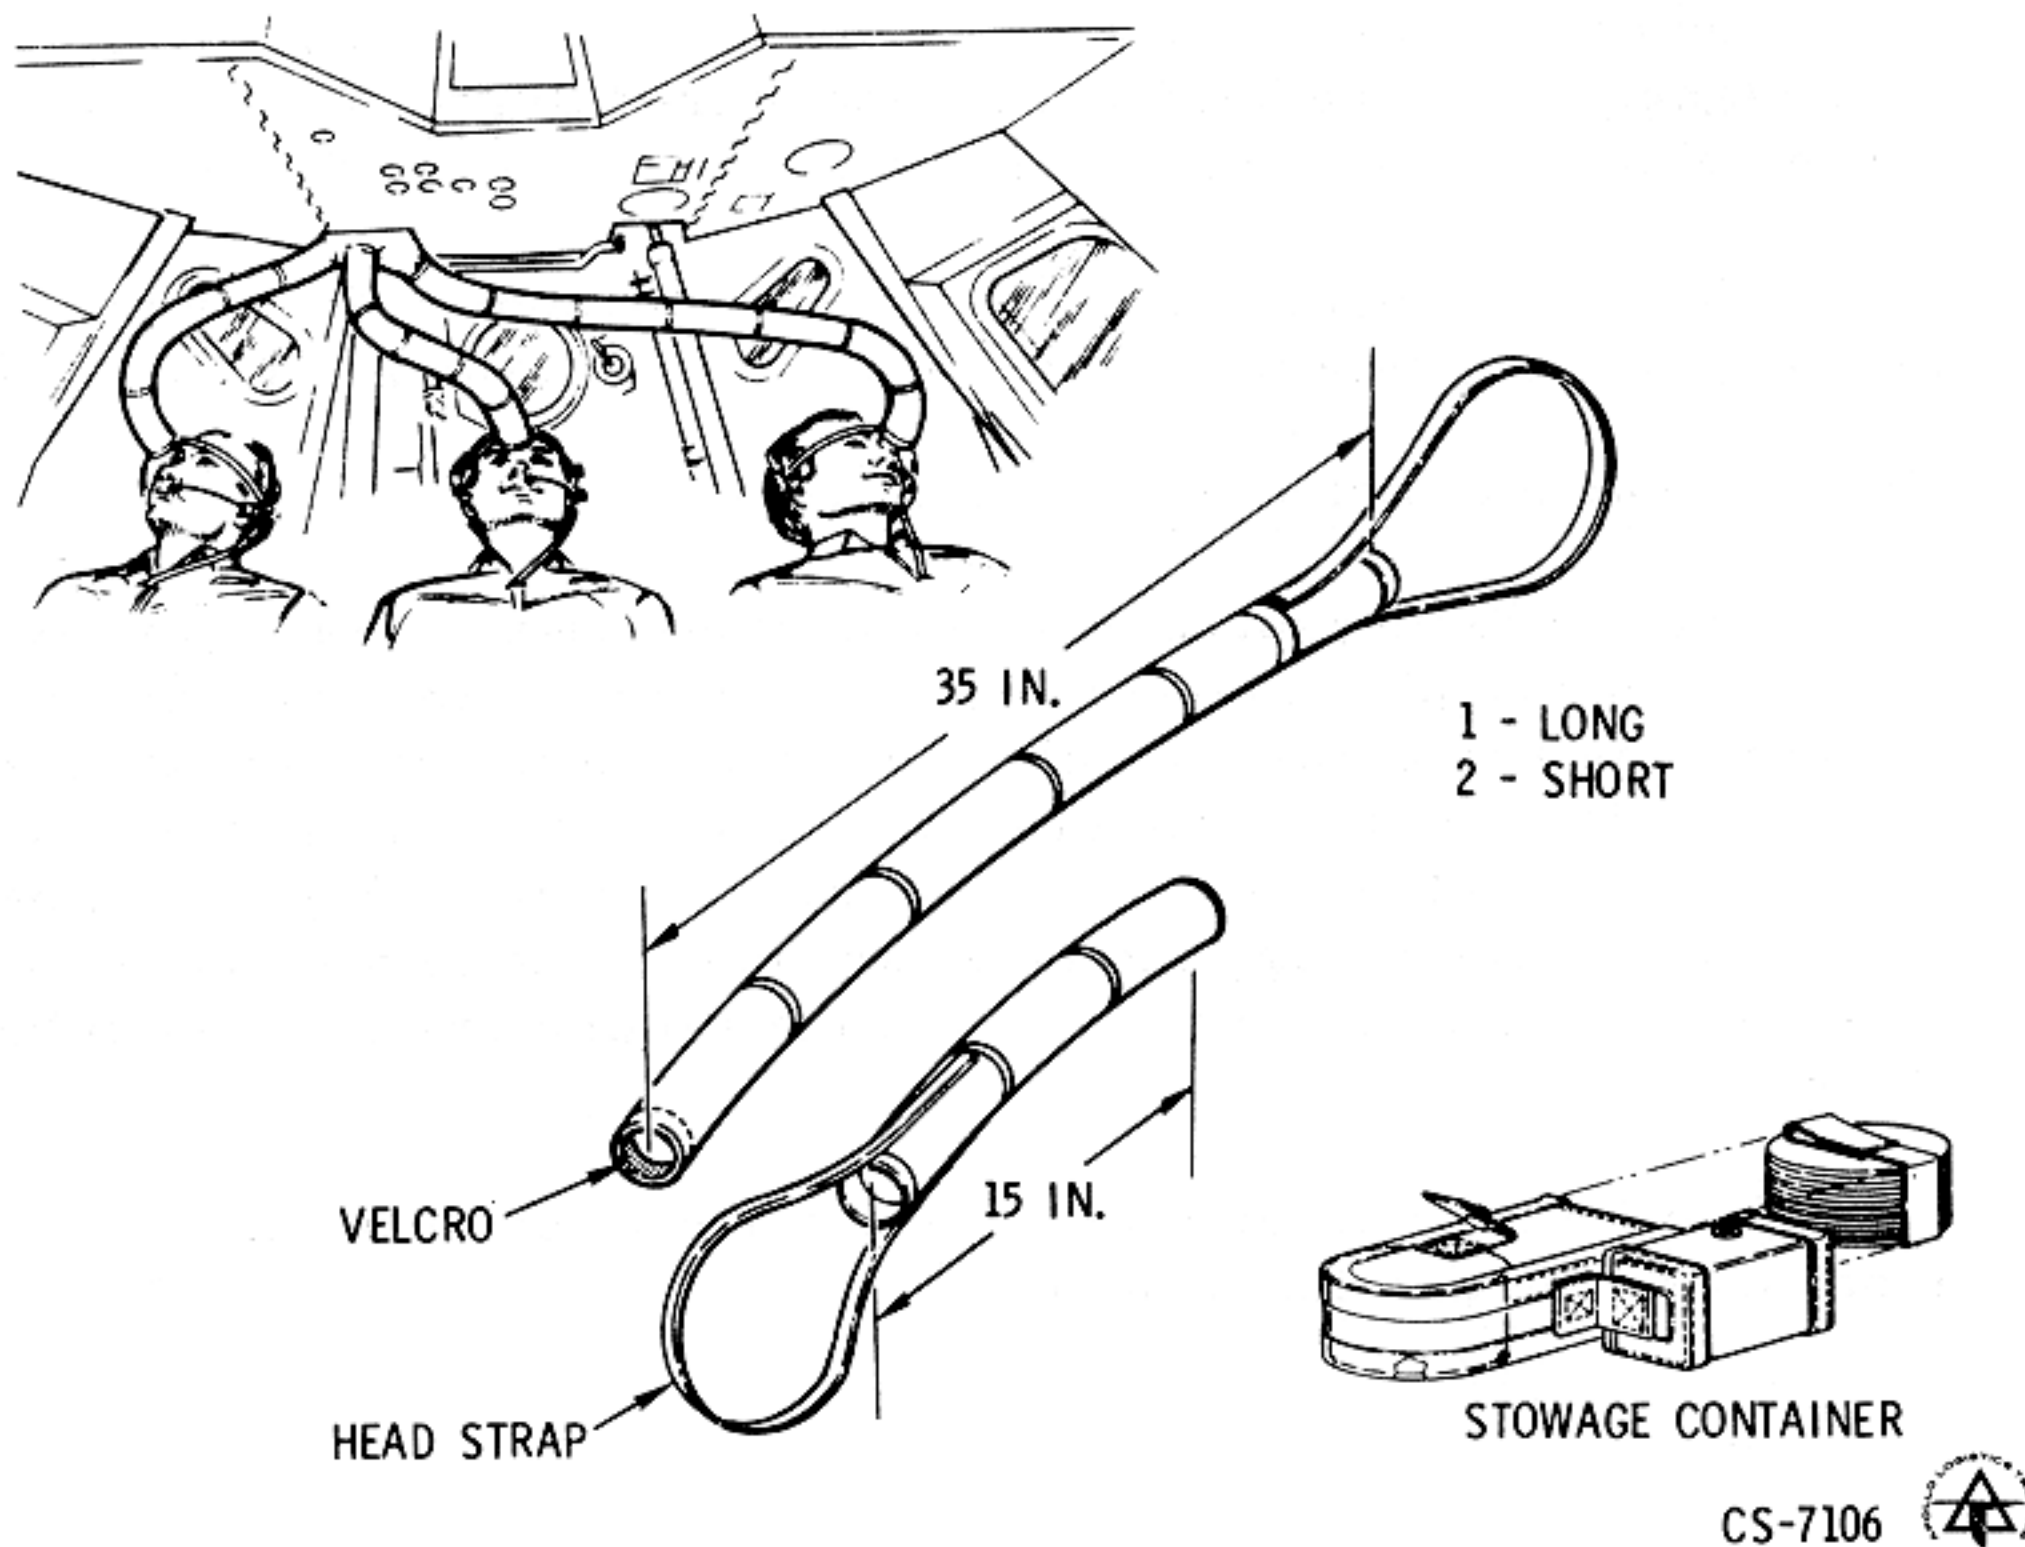

Figure 2.12-49. Postlanding Ventilation Ducts
2.12.9.1 Postlanding Ventilation (PLV) Ducts (Figure 2.12-49).